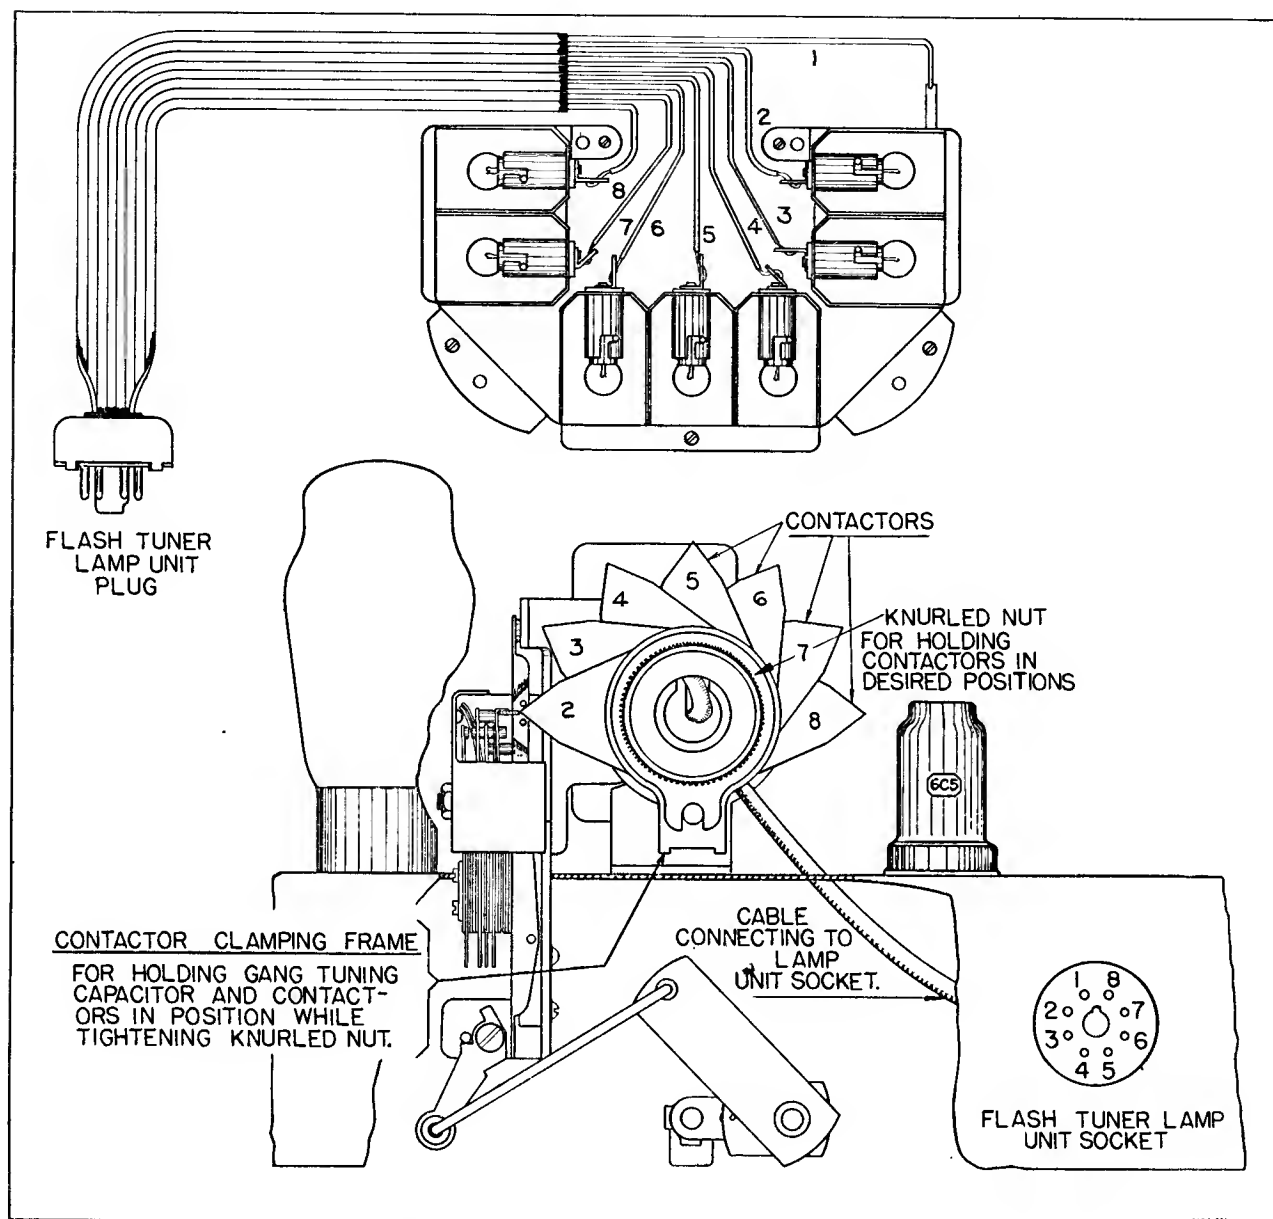

Fig. 4. Showing Flash Tuner Lamp Unit With Escutcheon Plate Removed (Top Figure) and Rear View of Receiver Showing Flash Tuner Mechanism (Bottom Figure).
7. After carefully tuning in the desired station rotate the A. F. C. Control knob to the "On" position. Now, noting from Figure 4, the sketch which shows the contactor clamping frame and knurled nut, hold the clamping frame with one hand and loosen the knurled nut with the other hand. Then move the contactor, numbered 2, so that its point is engaged between the two small rollers of the switching mechanism as also shown in Figure 4. When the point is properly engaged between the rollers, the lamp of the lamp unit which is located behind the station letters of the station being tuned in will light. When this condition is obtained, retighten the large knurled nut and at the same time securely hold the gang tuning capacitor and the contactors from rotating by means of the extended portion of the contactor clamping frame. It is extremely important to keep the gang tuning capacitor and the contactors from rotating when tightening the large knurled nut.